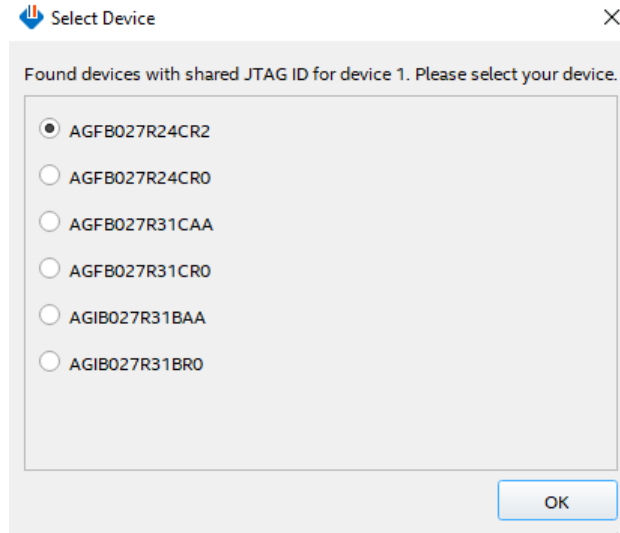

Figure 4-9. Device Selection
15. After clicking "Auto Detect", a window will appear; select the AGFB027R24CR2 option and click "OK". Figure 4-9 shows the typical view when selecting a device.